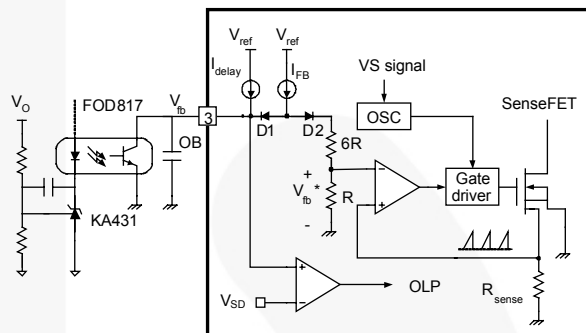

**Figure 13. Startup Block**
**1. Startup:** At startup, an internal high-voltage current source supplies the internal bias and charges the external capacitor ( $C_a$ ) connected to the  $V_{CC}$  pin, as illustrated in Figure 13. When  $V_{CC}$  reaches 8.7V, the FPS begins switching and the internal high-voltage current source is disabled. The FPS continues normal switching operation and the power is supplied from the auxiliary transformer winding unless  $V_{CC}$  goes below the stop voltage of 6.7V.